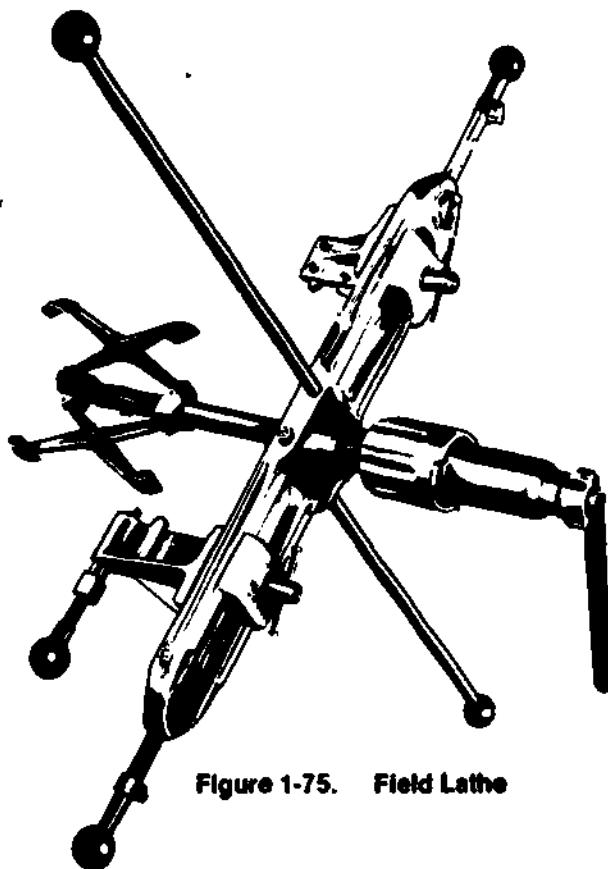

Figure 1-75. Field Lathe
- d) Figure 1-75 shows a larger type of field lathe that will machine ends of asbestos cement pipe from 100 mm to 350 mm. It is also available with an electric power drive.